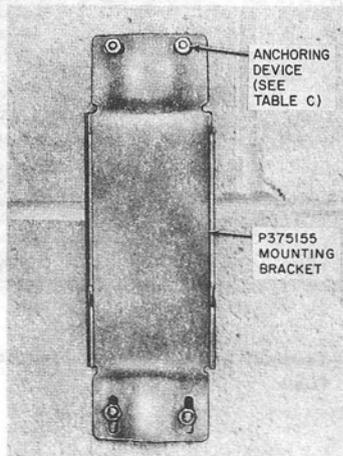

Fig. 35—P-375155 Mounting Bracket Secured To Wall
- (1) Attach the mounting bracket as illustrated in Fig. 35.